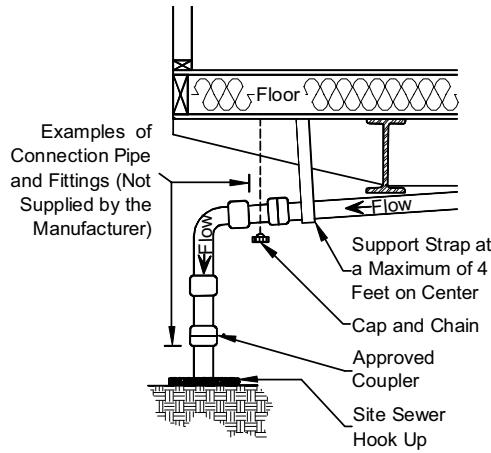
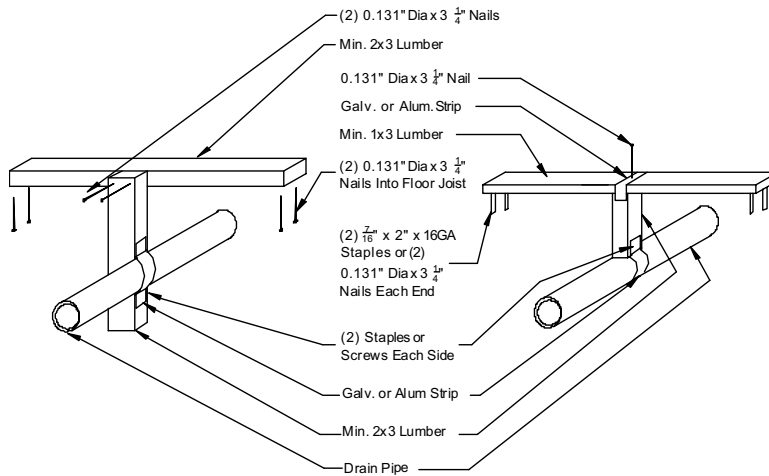

Figure 57. DWV connection to sewer/septic
Figure 58. DWV pipe support options
4. **Connect to outlet.** Connect the main drain line to the site sewer/septic hook-up, using an approved elastomer coupling (**Figure 57**).
- 5. Install supports.** Install permanent drain line supports at a distance of four feet o.c. or less (see **Figure 55**, **Figure 57**, and **Figure 58**).